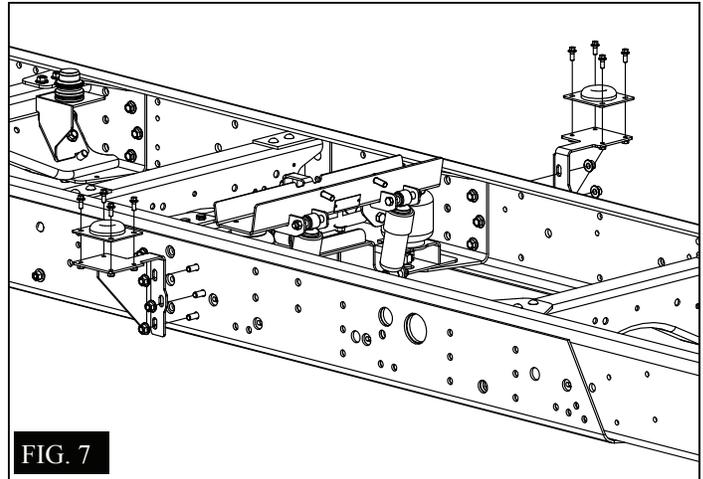

FIG. 7
5.6 Rear Bumper Installation (Fig. 7):